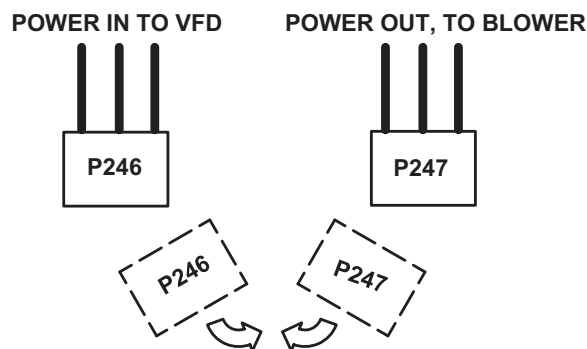

FIGURE 56
- 4 - Connect P246 to P247. See FIGURE 56.